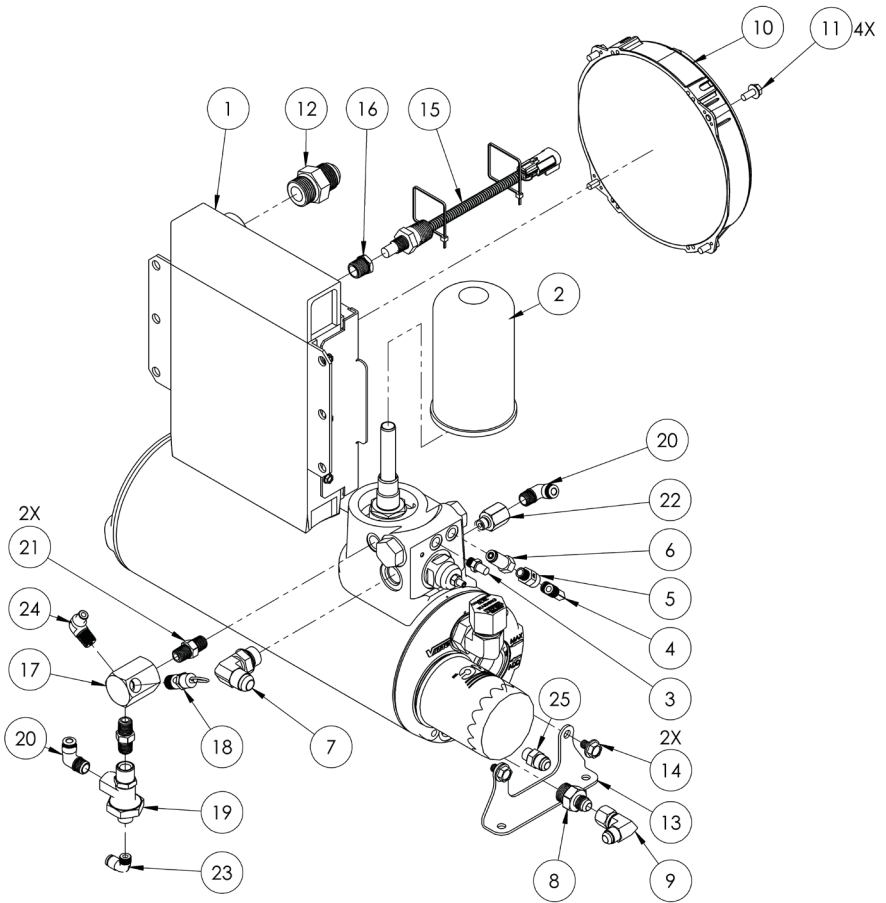

Figure 83 — WHASP Tank
4. WHASP Tank, 2110109 (Figure 83 on page 113)